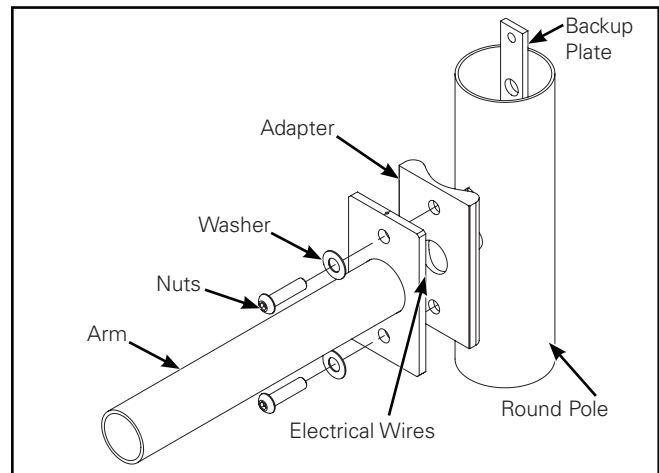

Figure 8.
Straight Arm (Figure 8.)
2. For round poles only - Install round plate adapter with round side facing pole (Figure 8). Align holes top and bottom.